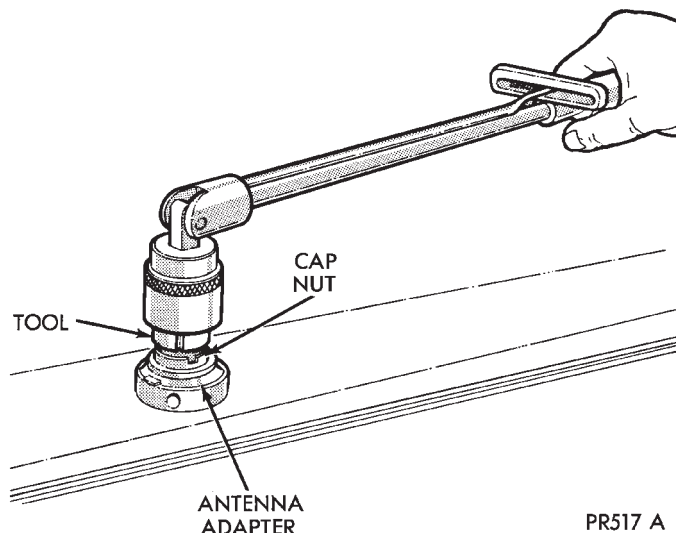

Fig. 16 Cap Nut and Adapter Remove/Install - Typical
(4) Remove the antenna cap nut using an antenna nut wrench (Special Tool C-4816) (Fig. 16).